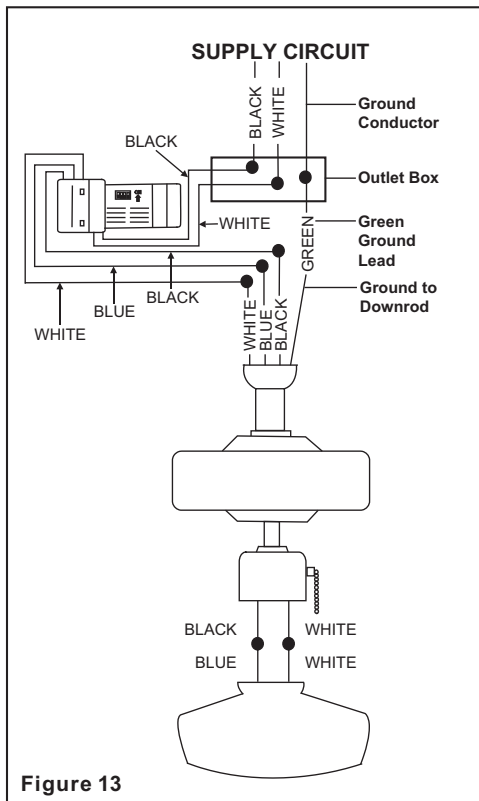

Figure 13
Step 2. (Fig. 13) Motor to Receiver Electrical Connections: Connect the Black wire from the fan to Black wire marked "TO MOTOR L". Connect the White wire from the fan to the White wire marked "TO MOTOR N" from the receiver. Connect the Blue wire from the fan to the Blue wire marked "For Light" from the receiver. Secure wire connections with the plastic wire nuts provided.
Step 3. (Figure 13) Receiver to House Supply Wires Electrical Connections: Connect the black (hot) wire from the ceiling to the black wire marked "AC in L" from the receiver. Connect the white (neutral) wire from the ceiling to the white wire marked "AC in N" from the Receiver. Secure the wire connections with the plastic wire nuts provided.
Step 4. (Figure 13) If your outlet box has a ground wire (green or bare copper) connect it to the fan ground wires; otherwise connect the hanging bracket ground wire to the mounting bracket. Secure the wire connection with a plastic nut provided. After connecting the wires spread them apart so that the green and white wires are on one side of the outlet box and black and blue wires are on the other side. Carefully tuck the wire connections up into the outlet box.